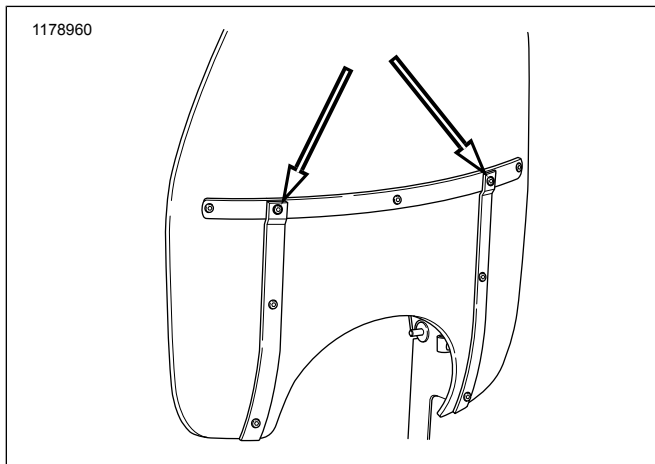

Figure 1. Center Screws
2. See Figure 1. Locate center support screws on windshield.